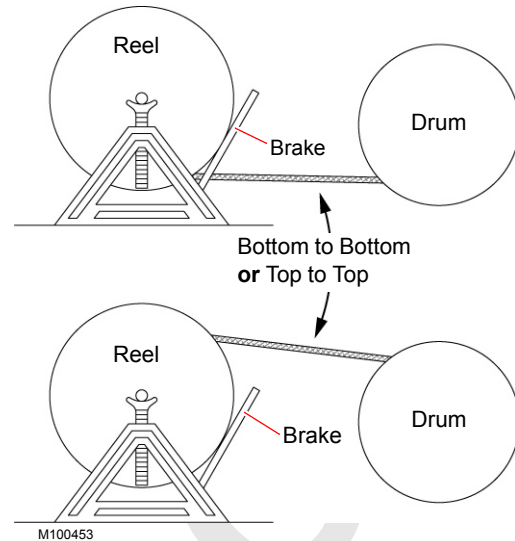

FIGURE 4-15
2. Provide a brake at the shipping reel (Figure 4-15) so the wire rope can be wound tightly onto the drum.
3. **Avoid a reverse bend when winding wire rope onto drum.** Wind wire rope from the top of the reel to the top of the drum or from the bottom of the reel to the bottom of the drum as shown in Figure 4-15.